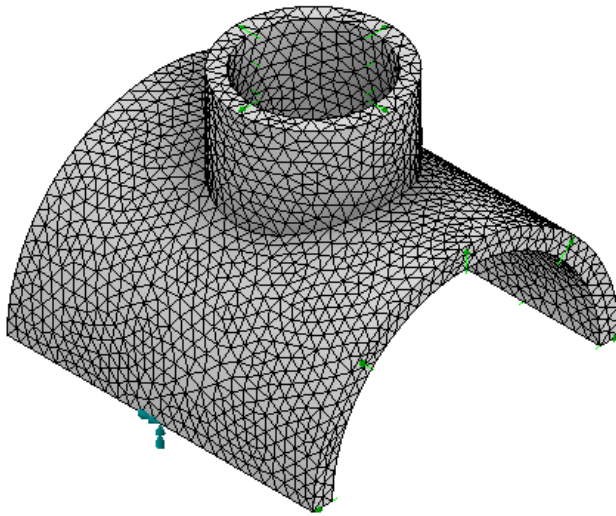
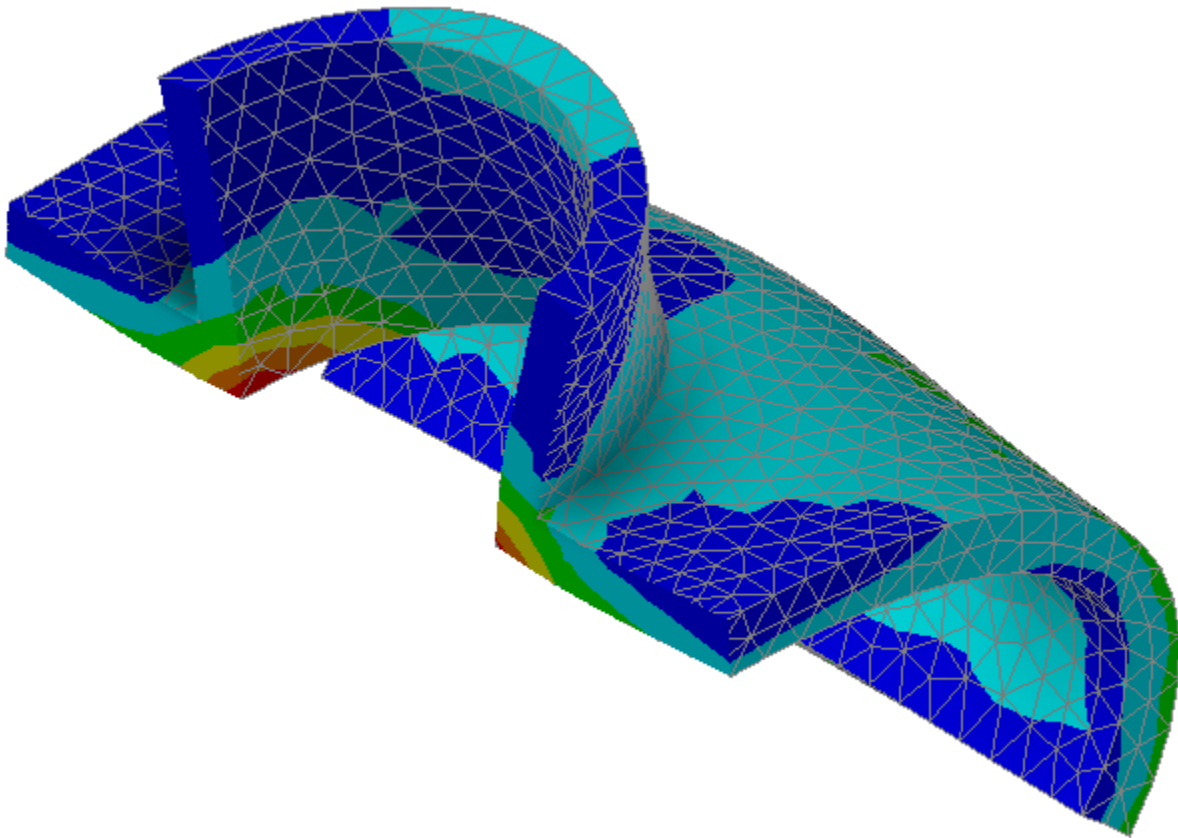

Figure 14 - Solid body used to create solid elements.
Figure 15 – CORRECT. Solid model sliced through the middle. The results exist through the thickness.
- Solid elements are created from solid bodies. Solid elements create elements throughout the volume. See Figure 14 and Figure 15 for the correct matching of solid elements to solid CAD geometry.